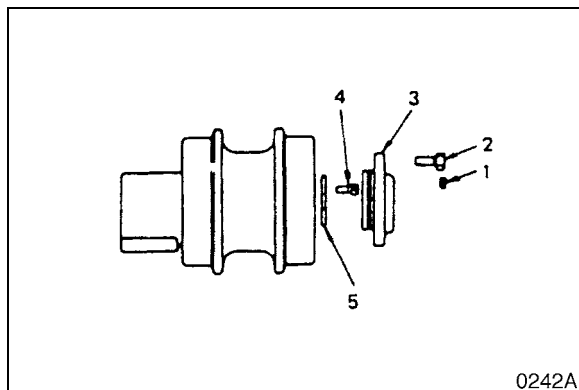

Figure 40
2. Remove the bolts and cover (3, Figure 40). Detach bolts (4) and washer (5).